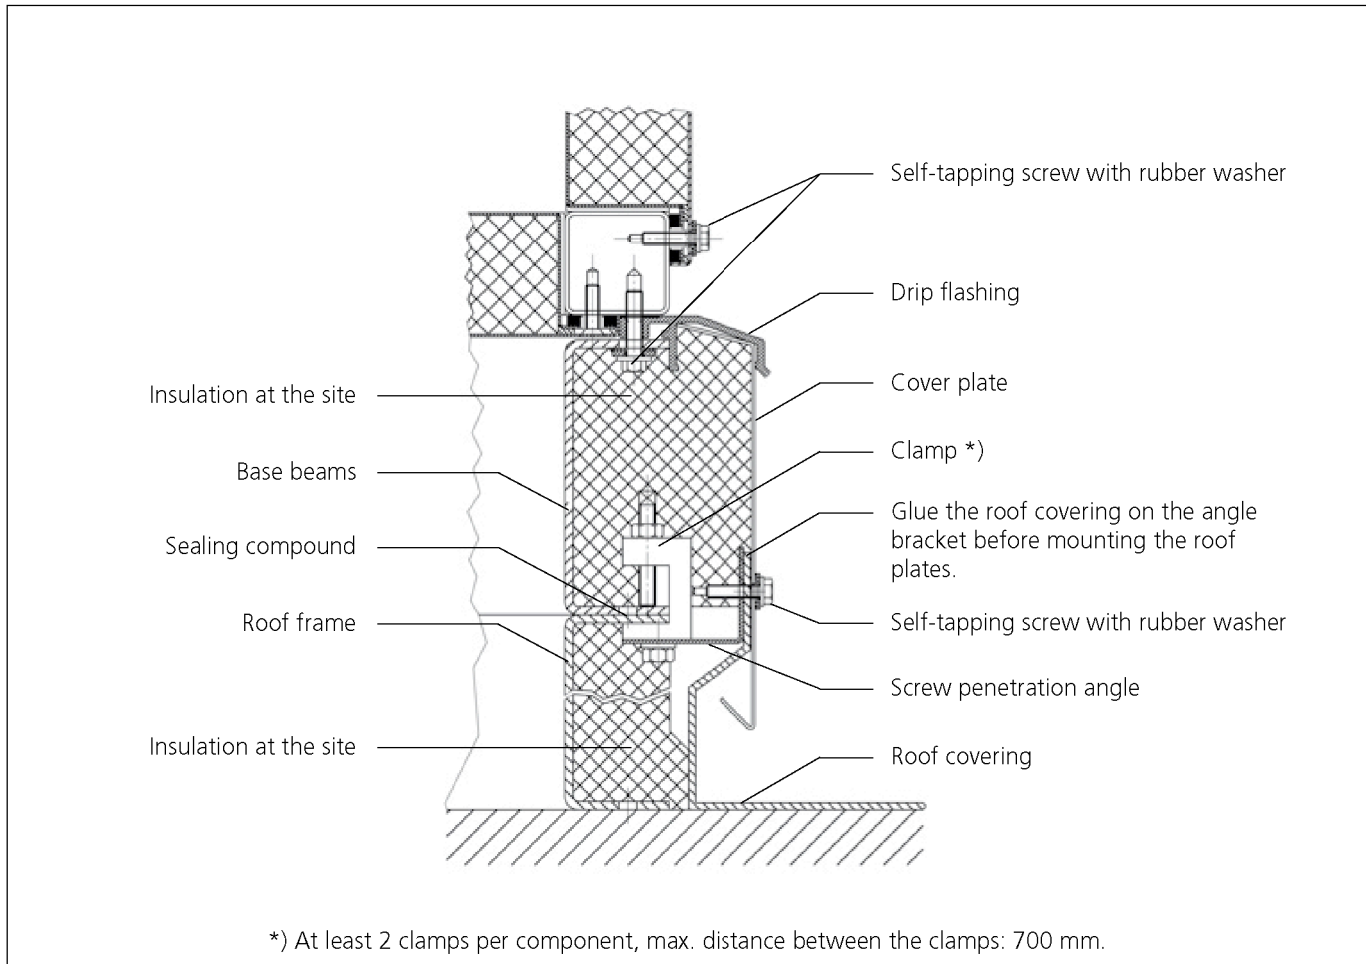

Fig. 9 Roof frame premounted at the site.
1. Roof frame premounted at the site (compare Fig. 9)